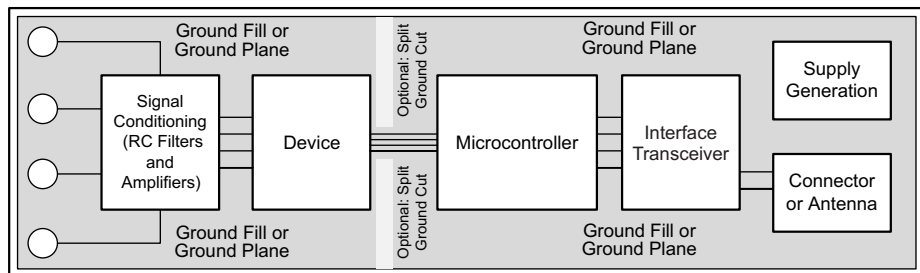

图 103. System Component Placement
Employing best design practices is recommended when laying out a printed-circuit board (PCB) for both analog and digital components. This recommendation generally means that the layout separates analog components [such as ADCs, amplifiers, references, digital-to-analog converters (DACs), and analog MUXs] from digital components [such as microcontrollers, complex programmable logic devices (CPLDs), field-programmable gate arrays (FPGAs), radio frequency (RF) transceivers, universal serial bus (USB) transceivers, and switching regulators]. An example of good component placement is shown in 图 103. Although 图 103 provides a good example of component placement, the best placement for each application is unique to the geometries, components, and PCB fabrication capabilities employed. That is, there is no single layout that is perfect for every design and careful consideration must always be used when designing with any analog component.